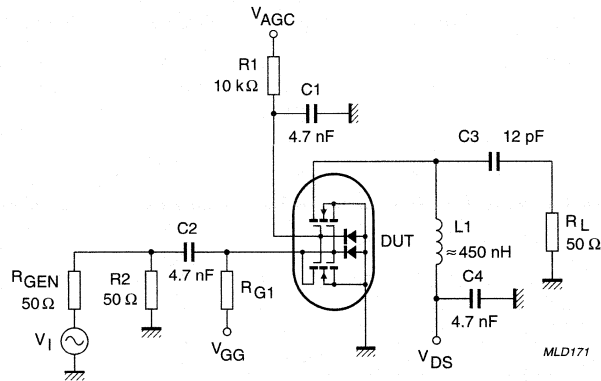

Fig.20 Cross-modulation test set-up.
1.  $R_G$  connects gate 1 to  $V_{GG} = 5\text{ V}$ ; see Fig.20.